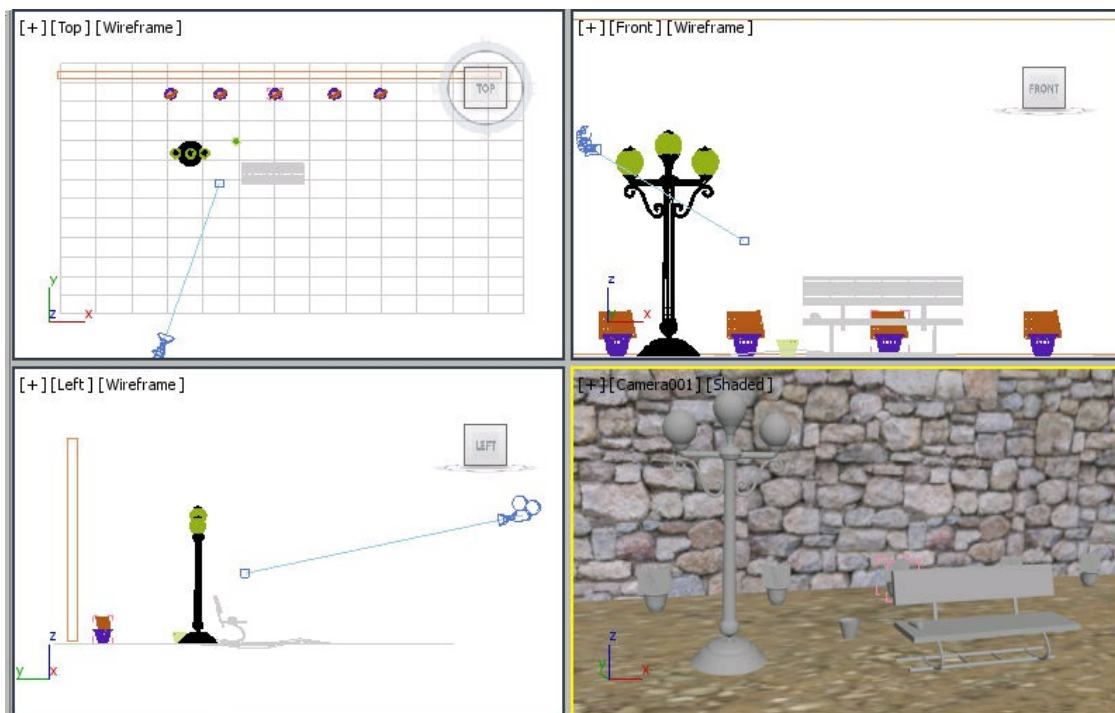

Figure 7-98 The file displayed
2. Choose the **Open** button from the **Application** menu; the **Open File** dialog box is displayed. In this dialog box, browse to *\Documents\c07_3dsmax_2016_tut* and then select the **c07_tut2_start.max** file from it. Choose the **Open** button to open the file, refer to Figure 7-98.